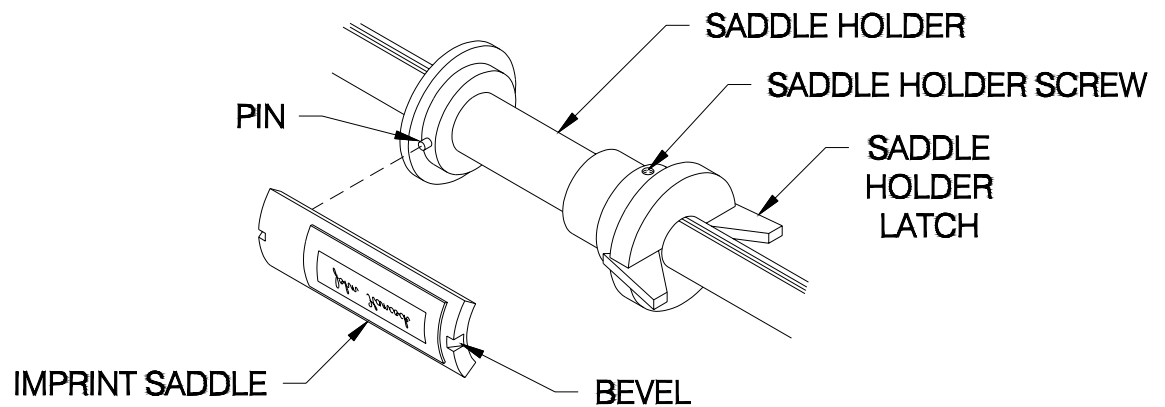

Figure 6.1 -- Loading Imprint Saddles
3. Place the notch in the IMPRINT SADDLE around the PIN on the SADDLE HOLDER. (Refer to **Figure 6.1.**)
2. Turn the EXECUTIVE KEY to the **LOCKED** position and the IMPRINT KEY ON. (Refer to **Figure 6.1**.)